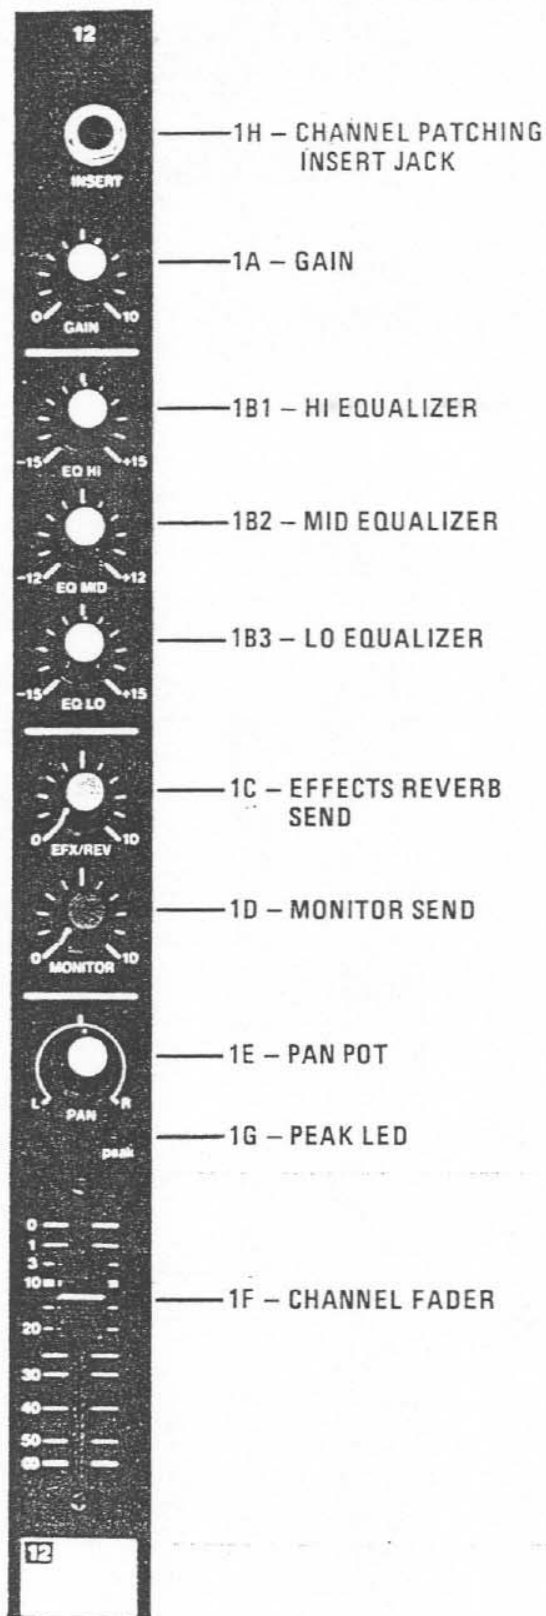

FIGURE 1 - Input Channel Functions
1.0 INPUT CHANNEL CONTROLS (Figure 1)